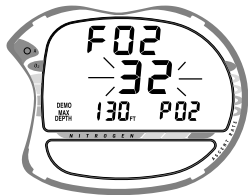

Fig. 80 - Set Demo FO2
- Press and release the Advance (Front) button to access **DEMO: FO2** with the DEMO icon and **Air** (or a numerical value) flashing (Fig. 80).
- Press and hold the Select (Bottom) button to scroll from **Air** to **21%** through **32%** in 1% increments. The scroll will stop when the button is released, or at **32%** (Fig. 80).